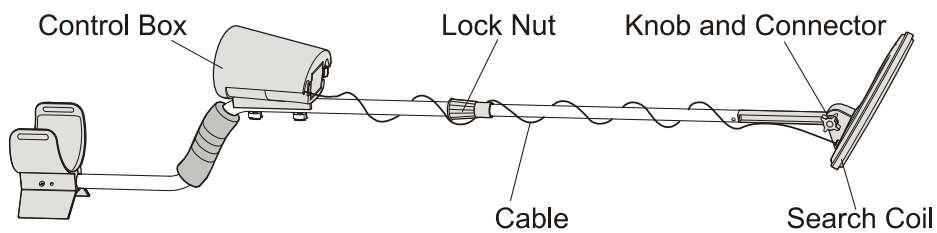
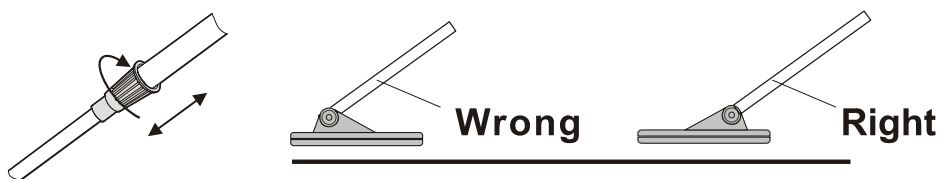

Fig. 1
Fig. 2
1. Relax the end of the bend-shape tube sleeve clockwise, and insert the aluminum tube which connects the search coil into the tube sleeve, adjusting the length so that you can stand comfortably and straighten your arms, when the search coil is from the ground about 1/2 inches, then lock the tube sleeve anti-clockwise. ( Fig.1 and Fig.2)